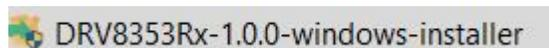

Figure 4. DRV8353Rx Firmware Installer Executable File
- Step 1. Download the "DRV8353RS/H-EVM Firmware" software package. This firmware is common for DRV8353RS and DRV8353RH (see Figure 4).